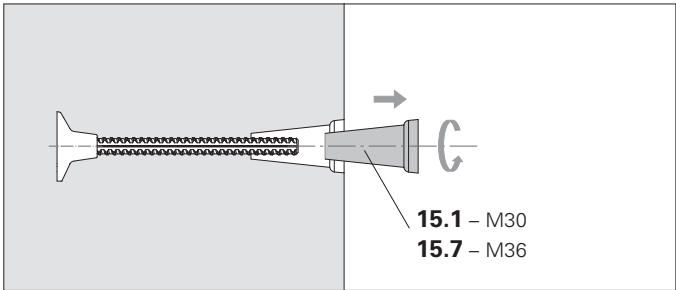

Fig. A2.16a
- 2. Unscrew the Climbing Cone by hand and remove. (Fig. A2.16a)